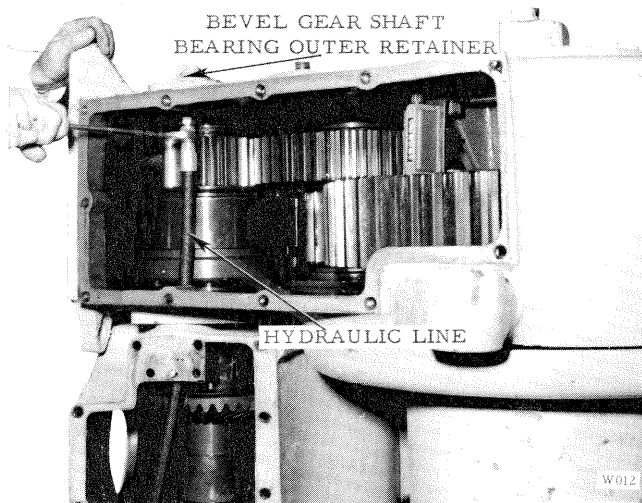
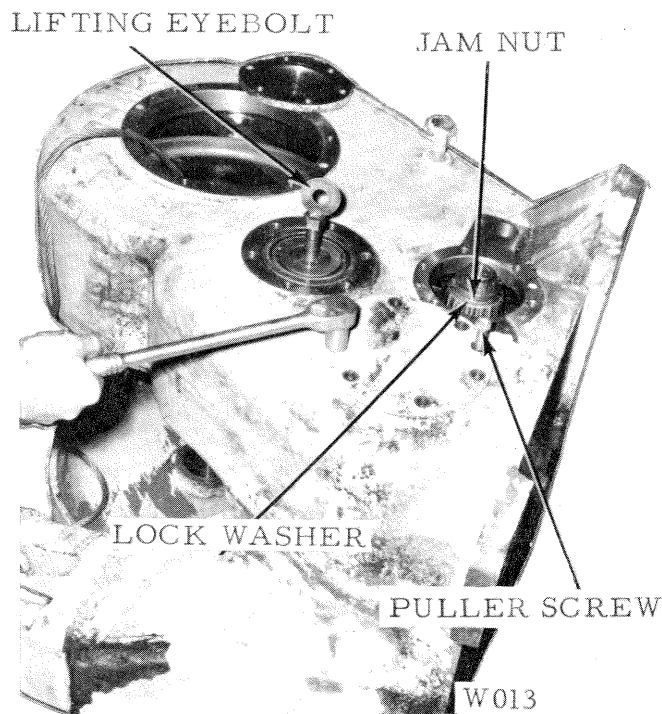

Figure 12
Figure 13
5. Straighten the lockwasher tang securing the jam nut (27 on the right end of the bevel gear shaft. Unscrew the nut sufficiently to relieve the snap ring (21) retaining the tapered bearing on the left end. Remove the snap ring.
7. Turn the winch on its left side. Block the assembly as level as possible. Disconnect hydraulic line from the right bevel gear shaft bearing retainer, if so equipped. Remove the bearing retainer. Fig. 12. Unscrew the jam nut. Fig. 13.